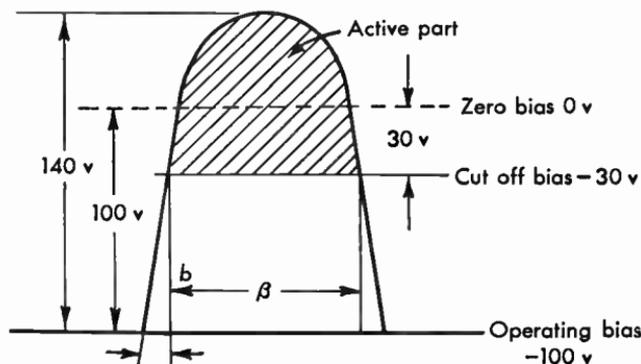

Fig. 5.44 Diagram illustrating the bias conditions of a class C amplifier.
From Figure 5.44, we read
5.45 From Figure 5.44, problem 5.44, calculate the operating bias which would change the active angle to 150 degrees.